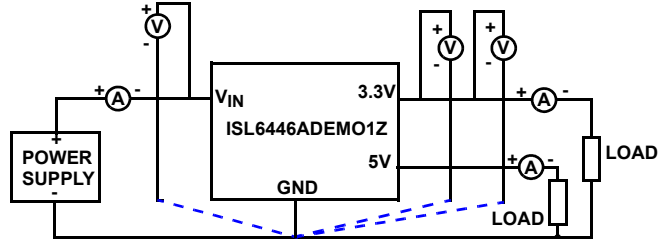

FIGURE 4. CONNECTION DIAGRAM
Using short twisted pair leads for any power connections and with all loads and power supplies off, refer to Figure 4 for the proper measurement and equipment setup. The Power Supply (PS) should not be connected to the circuit until told to do so in the following procedure.
2. Connect the power supply; electronic load; voltage and current meters. Figure 4 shows while keeping the power supply and load shut down.